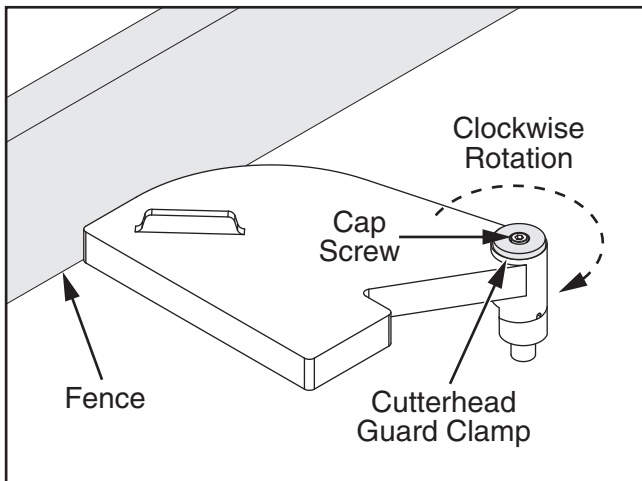

Figure 3. Rotating cutterhead guard clamp (tables removed for clarity).
- With cutterhead guard resting against fence, use straight-jaw pliers to rotate cutterhead guard clamp a $\frac{1}{4}$ turn clockwise, then tighten cap screw to secure guard clamp, as shown in **Figure 3**.